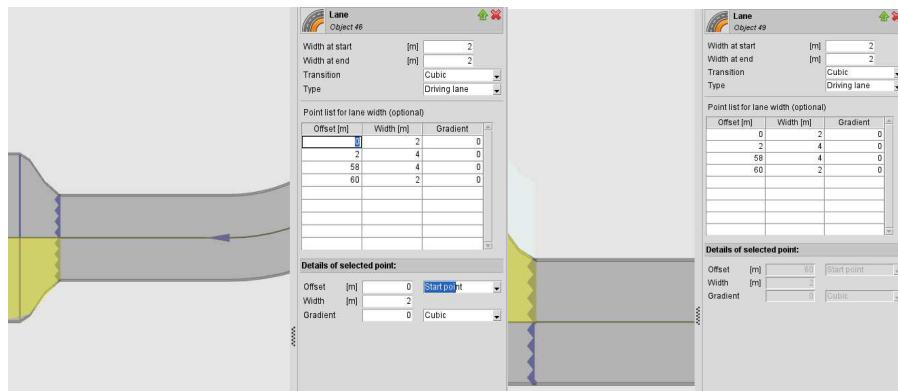

Figure 3.20: Configuring both lanes to fit the requirements
- In the defintion dialog (Figure 3.6 - section C) you can edit the *Point list for lane width (optional)* and follow the settings shown in Figure 3.20.